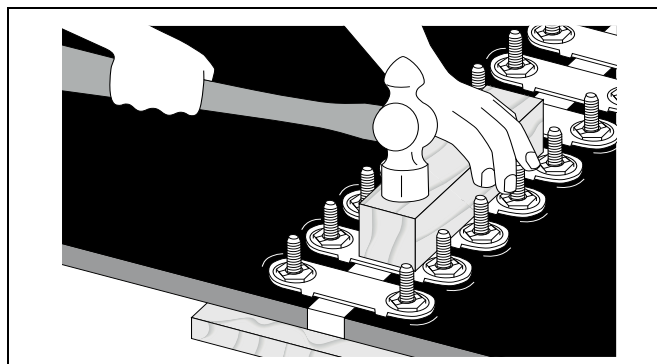

Figure 4N
11. Hammer plates in belt with metal or hard wood block in between bolts. Then retighten nuts. (See Figure 4N.)